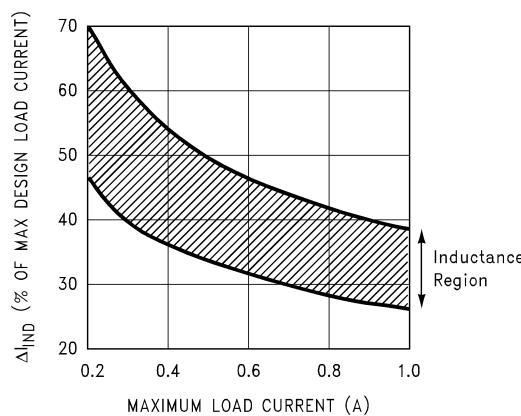
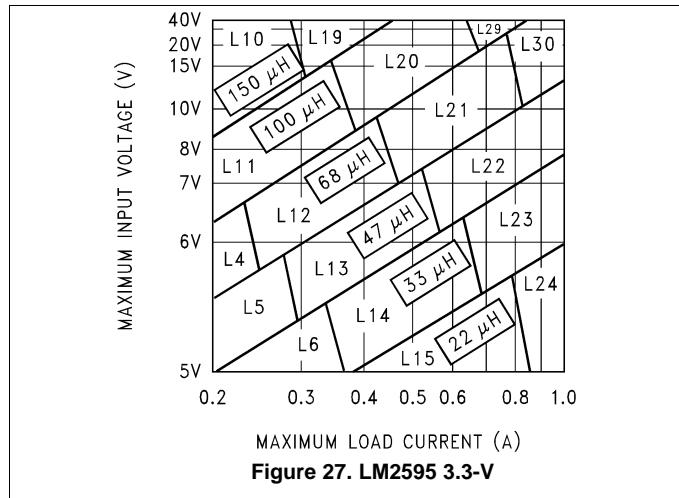
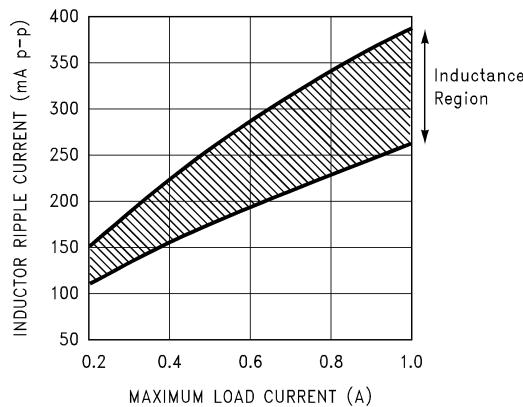

Figure 26. ΔI_{IND} , Peak-to-Peak Inductor Ripple Current (as a Percentage of the Load Current) vs Load Current
Figure 27. LM2595 3.3-V
Figure 31. Peak-to-Peak Inductor Ripple Current vs Load Current
To simplify the inductor selection process, an inductor selection guide (nomograph) was designed (see Figure 27 through Figure 30). This guide assumes that the regulator is operating in the continuous mode, and selects an inductor that will allow a peak-to-peak inductor ripple current to be a certain percentage of the maximum design load current. This peak-to-peak inductor ripple current percentage is not fixed, but is allowed to change as different design load currents are selected. (See Figure 26.)
For continuous mode operation, see the inductor selection graphs in Figure 27 through Figure 30
In a switching regulator design, knowing the value of the peak-to-peak inductor ripple current (ΔI_{IND}) can be useful for determining a number of other circuit parameters. Parameters such as, peak inductor or peak switch current, minimum load current before the circuit becomes discontinuous, output ripple voltage and output capacitor ESR can all be calculated from the peak-to-peak ΔI_{IND} . When the inductor nomographs shown in Figure 27 through Figure 30 are used to select an inductor value, the peak-to-peak inductor ripple current can immediately be determined. Figure 31 shows the range of (ΔI_{IND}) that can be expected for different load currents. Figure 31 also shows how the peak-to-peak inductor ripple current (ΔI_{IND}) changes from the lower border to the upper border (for a given load current) within an inductance region. The upper border represents a higher input voltage, while the lower border represents a lower input voltage (see Inductor Selection).
The selection guide in Figure 28 shows that the vertical line for a 0.8-A load current and the horizontal line for the 12-V input voltage intersect approximately midway between the upper and lower borders of the 68- μH inductance region. A 68- μH inductor allows a peak-to-peak inductor current (ΔI_{IND}) to flow as a percentage of the maximum load current. Referring to Figure 31, follow the 0.8-A line approximately midway into the inductance region, and read the peak-to-peak inductor ripple current (ΔI_{IND}) on the left hand axis (approximately 300 mA_{p-p}).
As the input voltage increases to 14 V, it approaches the upper border of the inductance region, and the inductor ripple current increases. Figure 31 shows that for a load current of 0.8 A, the peak-to-peak inductor ripple current (ΔI_{IND}) is 300 mA with 12-V in, and can range from 340 mA at the upper border (14-V in) to 225 mA at the lower border (10-V in).
1. Select the correct inductor value selection guide from Figure 27, Figure 28, or Figure 29 (output voltages of 3.3 V, 5 V, or 12 V respectively).